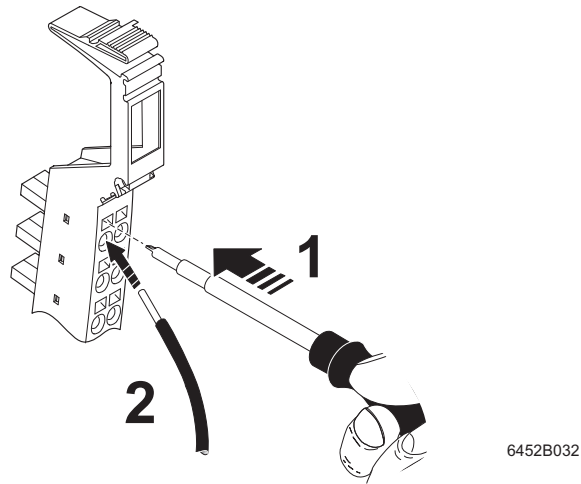

Figure 4-6 Connecting unshielded cables
- Push a screwdriver into the slot of the appropriate terminal point (Figure 4-6, detail 1), so that you can insert the wire into the spring opening. Phoenix Contact recommends using a SZF 1 - 0,6X3,5 screwdriver (Order No. 1204517; see Phoenix Contact “CLIPLINE” catalog).
- Insert the wire (Figure 4-6, detail 2). Remove the screwdriver from the opening. This clamps the wire.